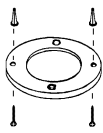
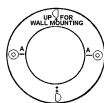
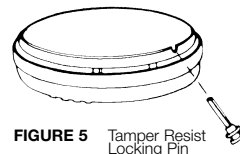

FIGURE 1
FIGURE 2
FIGURE 5 Tamper Resist Locking Pin
3. After selecting the proper smoke alarm location as described in Section 1, attach the mounting plate to the ceiling as shown in Figure 1. For wall mounting see Figure 2. Place mounting plate on the wall. Be sure the "UP FOR WALL MOUNTING" text
7. USING TAMPER RESIST LOCKING PIN: To make your smoke alarm somewhat tamper resistant, a locking pin has been provided in the bag with the screws and anchors. Using this pin will deter children and others from removing the alarm from the mounting plate. To use the pin, insert it into the hole in the side of the alarm after the alarm has been installed on the mounting plate (see Figure 5).
To replace the batteries, remove the alarm from the mounting plate by rotating the alarm in the direction of the "OFF" arrow on the cover (see Section 3, Figure 1).
LAMP REPLACEMENT: The Safety Light has a 6.3 volt 250mA fuse type lamp (average life of 50 hours). If the Safety Light does not operate with a fresh alkaline battery, replace the lamp. To replace the lamp, remove the alarm from the mounting bracket by rotating the alarm in the direction of the "OFF" arrow on the cover (see Section 3, Figure 1 for removal, and Section 3, Figure 5 if tamper resist pin is used).